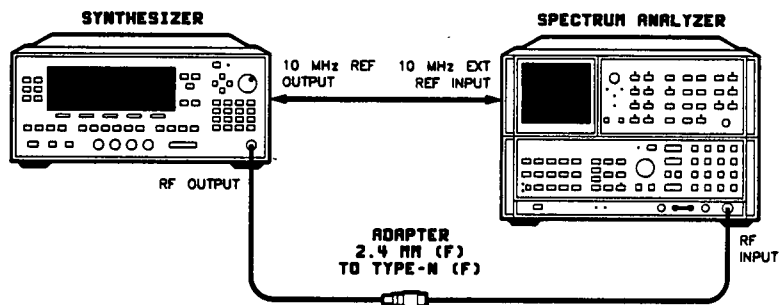

Figure 2-9. Spurious Signals (Harmonic) Test Setup <20 GHz
1. Turn on the equipment shown in figures 2-9 and 2-10. Preset the instruments and let them warm up for at least one hour.
3. Connect the equipment as shown in figure 2-9.